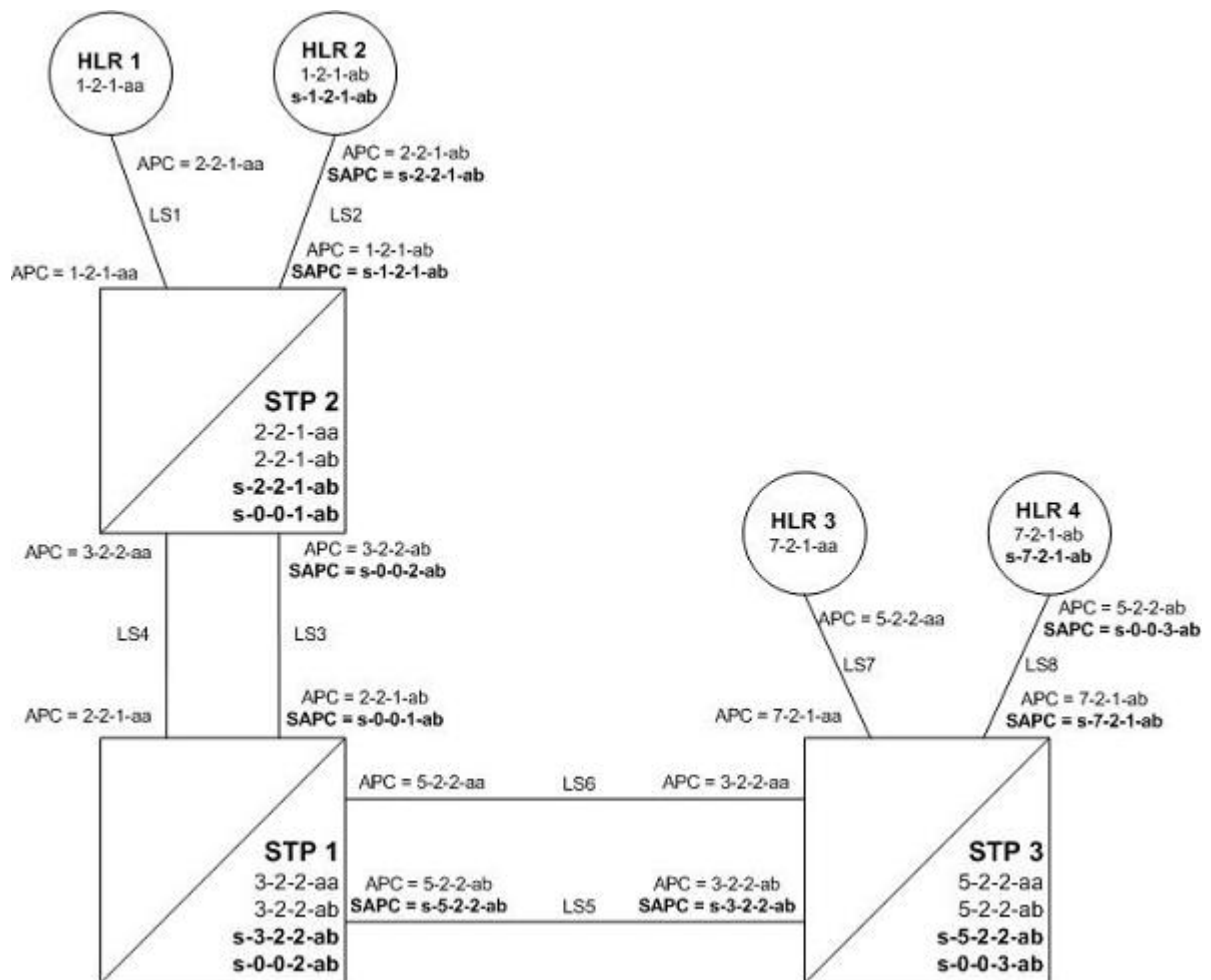

Figure 9: Stage One - ITU National and International Spare Point Code Support Feature Provisioned on All Nodes
Figure 9: Stage One - ITU National and International Spare Point Code Support Feature Provisioned on All Nodes shows an example network. The items shown in bold are items that are added during this stage of the migration procedure.
The following steps are performed for each node shown in Figure 9: Stage One - ITU National and International Spare Point Code Support Feature Provisioned on All Nodes, one at a time, as part of this stage of the migration procedure.
1. Upgrade each EAGLE 5 ISS shown in Figure 9: Stage One - ITU National and International Spare Point Code Support Feature Provisioned on All Nodes to the software release that contains the ITU National and International Spare Point Code Support feature by performing the appropriate upgrade procedure.
2. Enable the ITU National and International Spare Point Code Support feature on each EAGLE 5 ISS shown in *Figure 9: Stage One - ITU National and International Spare Point Code Support Feature Provisioned on All Nodes*, by performing the *Activating the ITU National and International Spare Point Code Support Feature* procedure. Do not turn the feature on at this time.
After Stage One has been completed, as indicated in *Figure 9: Stage One - ITU National and International Spare Point Code Support Feature Provisioned on All Nodes*, linksets LS2, LS3, LS5, and LS8 are capable of supporting traffic to and from both ITU-National and ITU-National spare point codes. Routing decisions, however, are still made using the Duplicate Point Code rules, as the ITU National and International Spare Point Code Support feature has not been turned on.